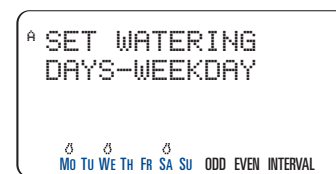

Figure 7: Selecting “Days of Week”
- Press **NEXT** until the desired day of the week flashes. Press **ENTER** to select that day. Day(s) selected will have a water drop icon ☼ over the day of week. Continue until all the desired days are selected. [See Figure 7]